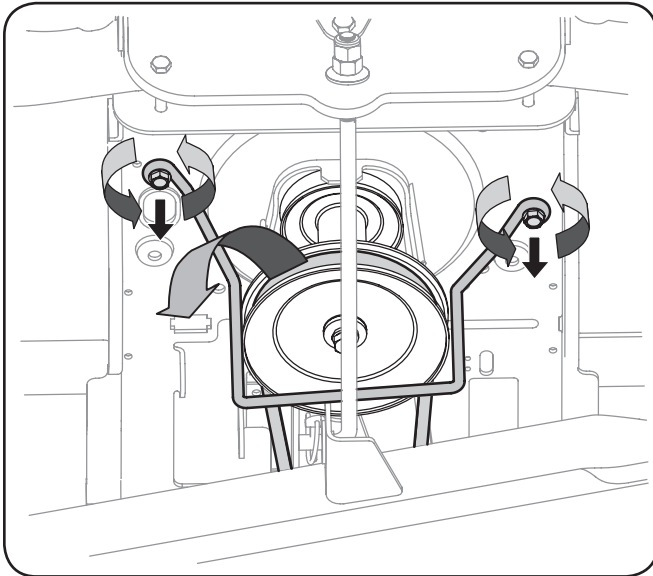

Figure 7-1
3. Locate the engine pulley under the front of your tractor. See Fig. 7-1.
4. Remove the belt guard and belt as follows. Refer to Fig. 7-1:
11. Replace the belt guard. See Fig. 7-1.